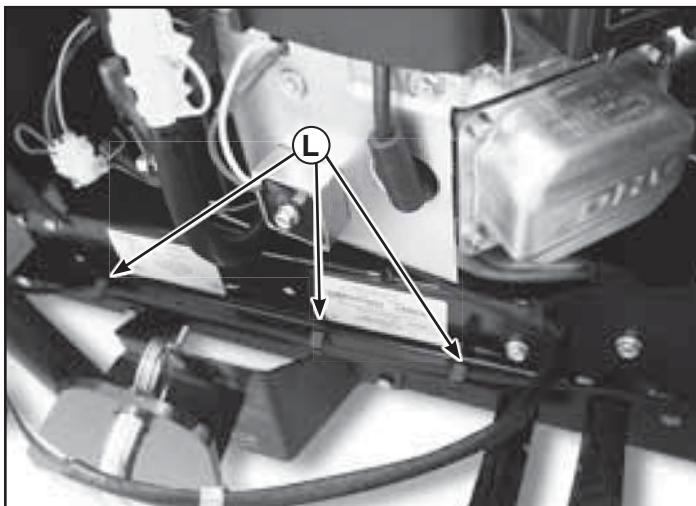

Figure 23
- Secure wiring harness in place with clips (L, Figure 23) to the frame rails.